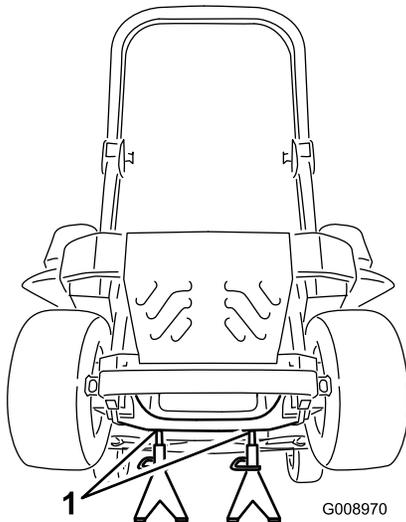

Figure 96
3. Raise the machine and support it with jack stands (Figure 96).
9. Remove the jack stands and lower the machine (Figure 96).